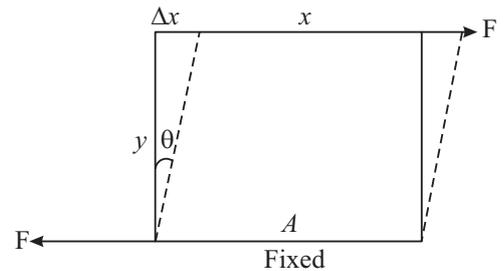

Fig. 8.8 : Shearing strain
- (i) **Shearing strain:** When the deforming forces are tangential (Fig 8.8), the shearing strain is given by the angle θ through which a line perpendicular to the fixed plane is turned due to deformation. (The angle θ is usually very small.) Then we can write